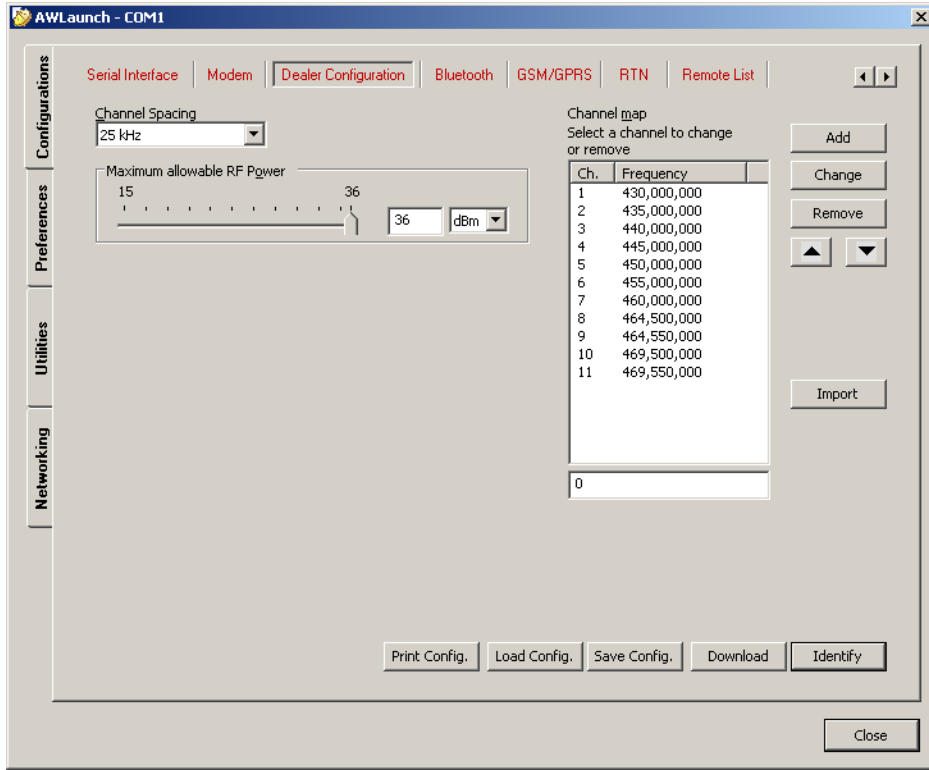

Figure 2-8. Dealer Configuration tab
7. In the *Dealer Configuration* set the channel spacing and fill in the channel map (the list of frequency channels). See Figure 2-8 on page 24.